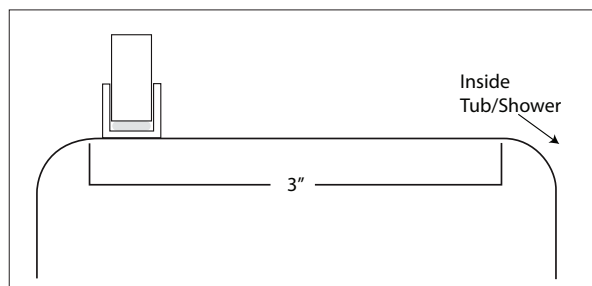

Figure 5
- E. Place U-Channel (#13) on tub/shower curb in desired location 3" from the inside of tub/shower (see Figure 5).